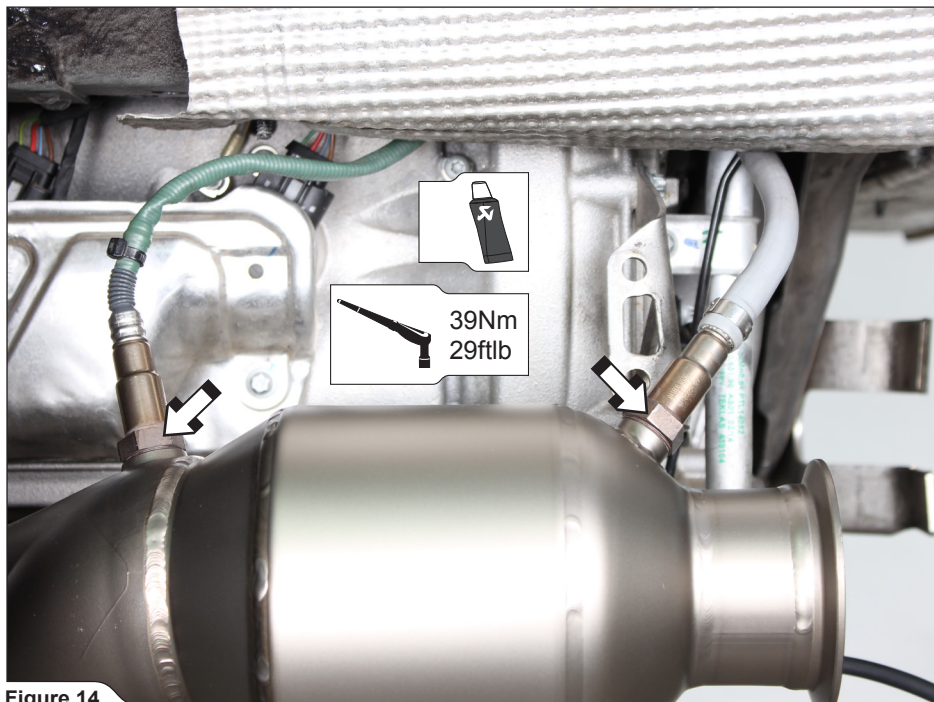

Figure 14
2. Attach lambda sensors on both sides of the vehicle (**Figure 14**).